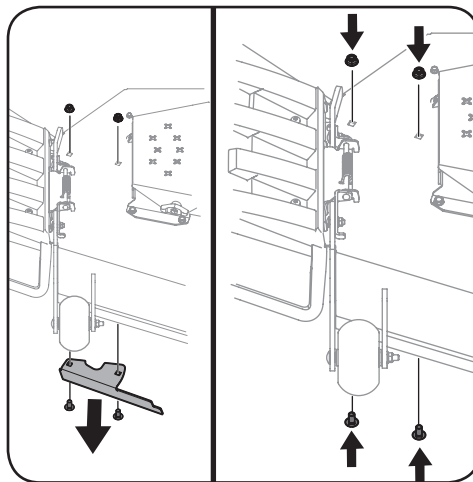

Figure 1-2
3. Remove the chute deflector baffle from the underside of the deck by removing the two carriage bolts and flange lock nuts that secure it to the deck. See Figure 1-2.
4. When the baffle is removed, re-install the two carriage bolts and flange lock nuts into the deck. See Figure 1-2.